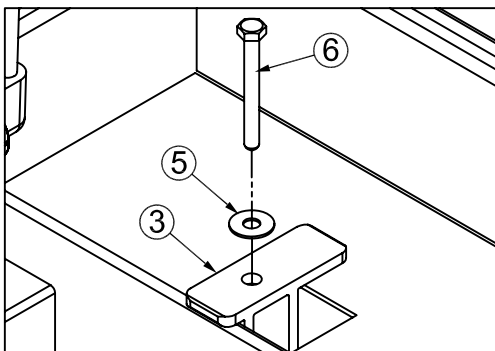

Fig. 8
9. Insert M6 bolt (#6) with M6 flat washer (#5) through J-hook receiver (#3) and thread into J-hook (#4). (See Fig. 8)